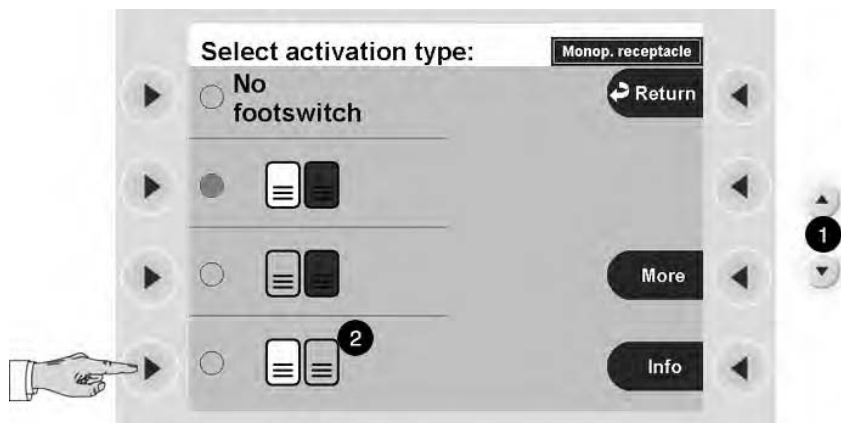
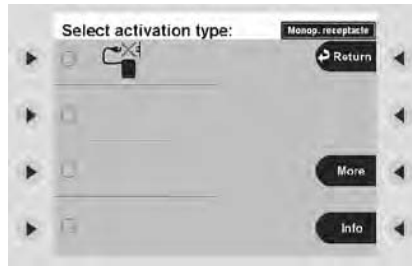

Fig. 5-16
Fig. 5-17
In the window Fig. 5-16 you will see a list of the possible footswitch allocations. Scroll with the Down button (1) to the next window Fig. 5-17. You can also use the Select button next to the "Other modes" menu item.